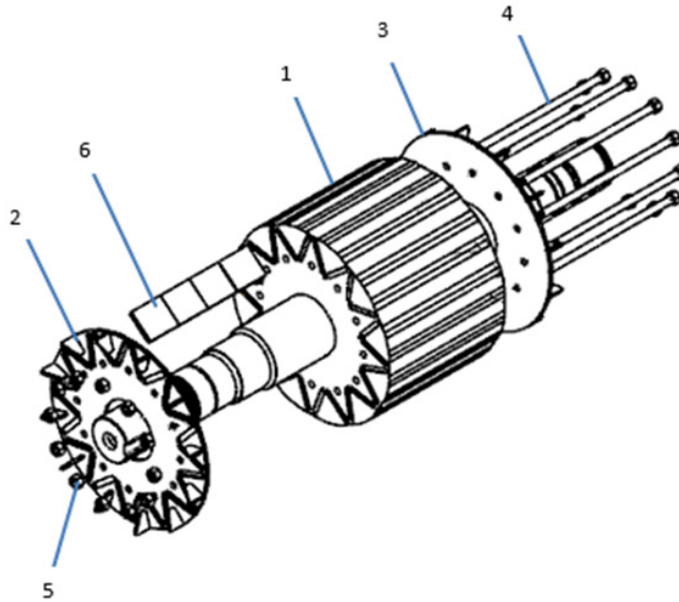

Figure 2. Exploded view of a permanent magnet rotor. Numbers showing where the different components are positioned. More detailed info in Table 2.
Permanent magnet motors differ from the standard low voltage motor when it comes to the rotor. An exploded view of that is provided below, see Figure 2.
Table 2. Description of components in the permanent magnet rotor, the position in Figure 2 and their respective material composition. The last comment column displays how the material should be managed at the end of life.
Permanent magnet material can be recycled, and it has a substantial value. In case there is a need to recover the PM material from the motor, the motor should first be heat treated using an oven as described in chapter 2.1.1. After the heat treatment, the magnets (see (6) in Figure 2), are demagnetized and the glue holding them has lost its adhesion. Then, the magnets can be pushed out from the rotor slots. Unmagnetized magnets can be shipped to ABB who can take care of the recycling of the magnetic material.